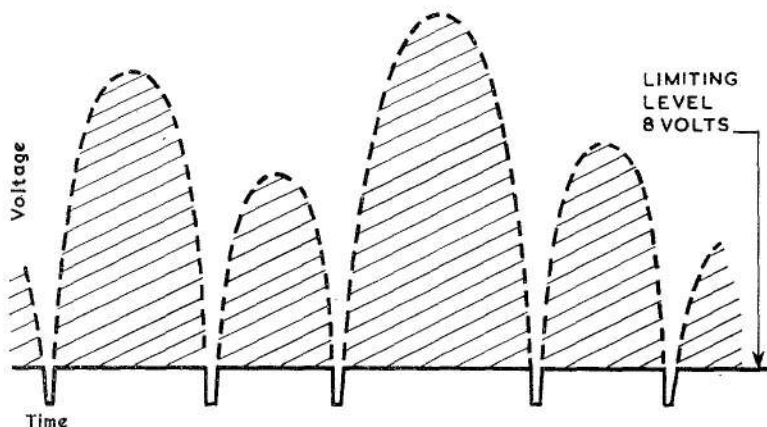

Fig. 13. Frequency doubler output waveform
- (4) Rotate the VARIABLE SPEED CONTROL fully clockwise using the fine control.
- (5) Connect oscilloscope to MONITOR COUNTER I/P SKTS.
- (6) Set the oscilloscope to its 50V range, with a time-base duration of 100 microseconds.
- (7) Observing the oscilloscope, adjust RV2 to give a limiting level of 8 volts on the trace. If all peaks are not clipped at this amplitude the probe must be positioned nearer the detector wheel until the required waveform is obtained (fig. 13).
- (8) Disconnect the oscilloscope.
- (9) Check that the counter registers at least 12,000 and the count has a stability of ± 5 of the final digit.
- (10) If the counter is not stable rotate the SET O/P LEVEL anti-clockwise until the DRIVE TACHO stalls, then rotate the control 5 degrees clockwise. Restart the DRIVE TACHO and check the counter stability.